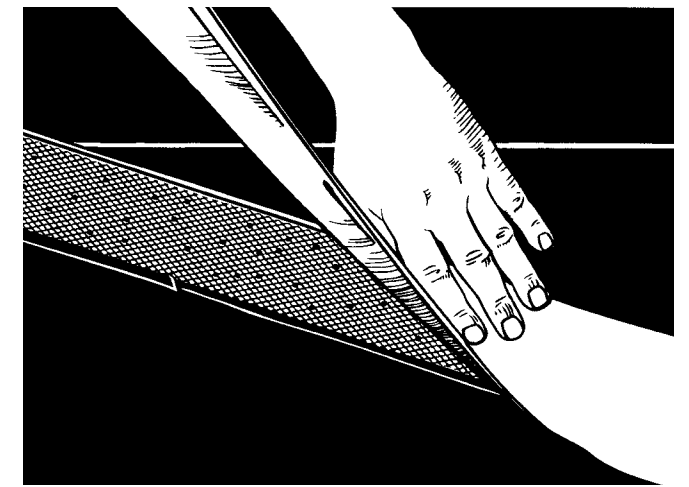

Fig. 5-19
34. Prick the fill-in gum with an awl to release trapped air. Cover with a cemented strip of release material 2 in. (50mm) wider than the gum strip (Fig. 5-19).